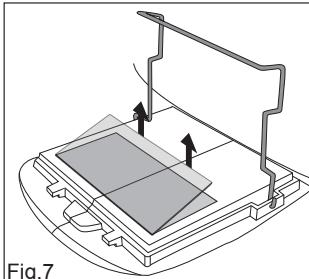

Fig.7
① Take off the inner cover lens (see Fig.7).